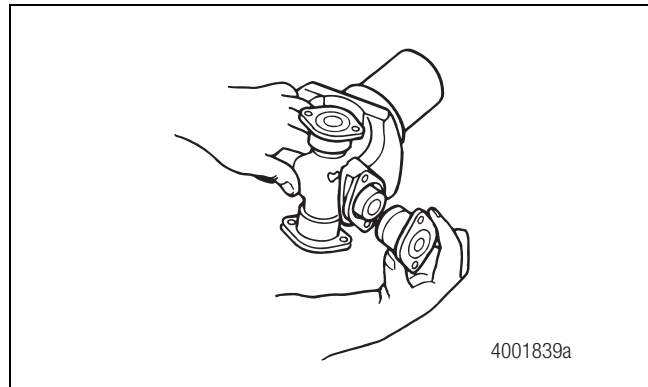

Figure 3.2
4. Remove the second bearing cup. Figure 3.2.